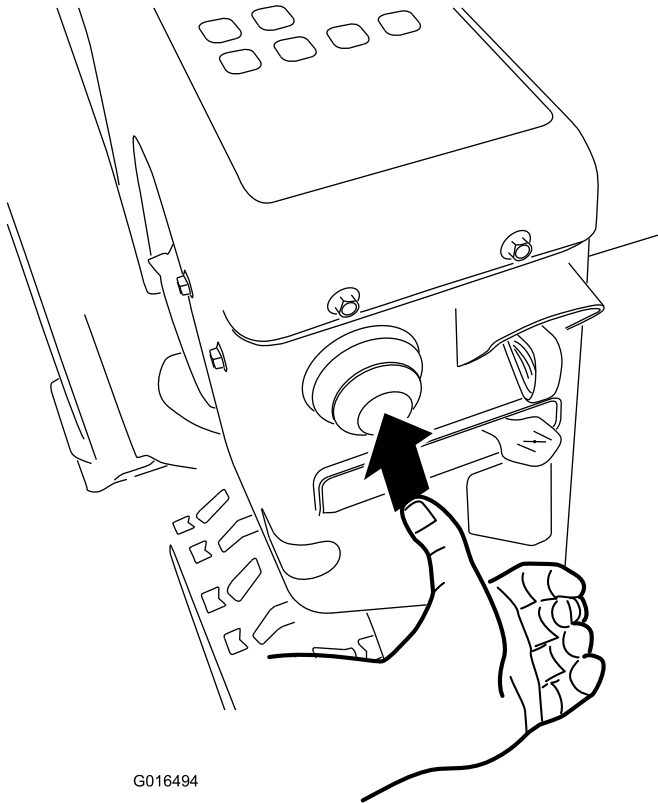

Figure 28
- 4. Firmly push in the primer with your thumb as indicated by the chart below, holding the primer in for a second before releasing it each time (Figure 28).